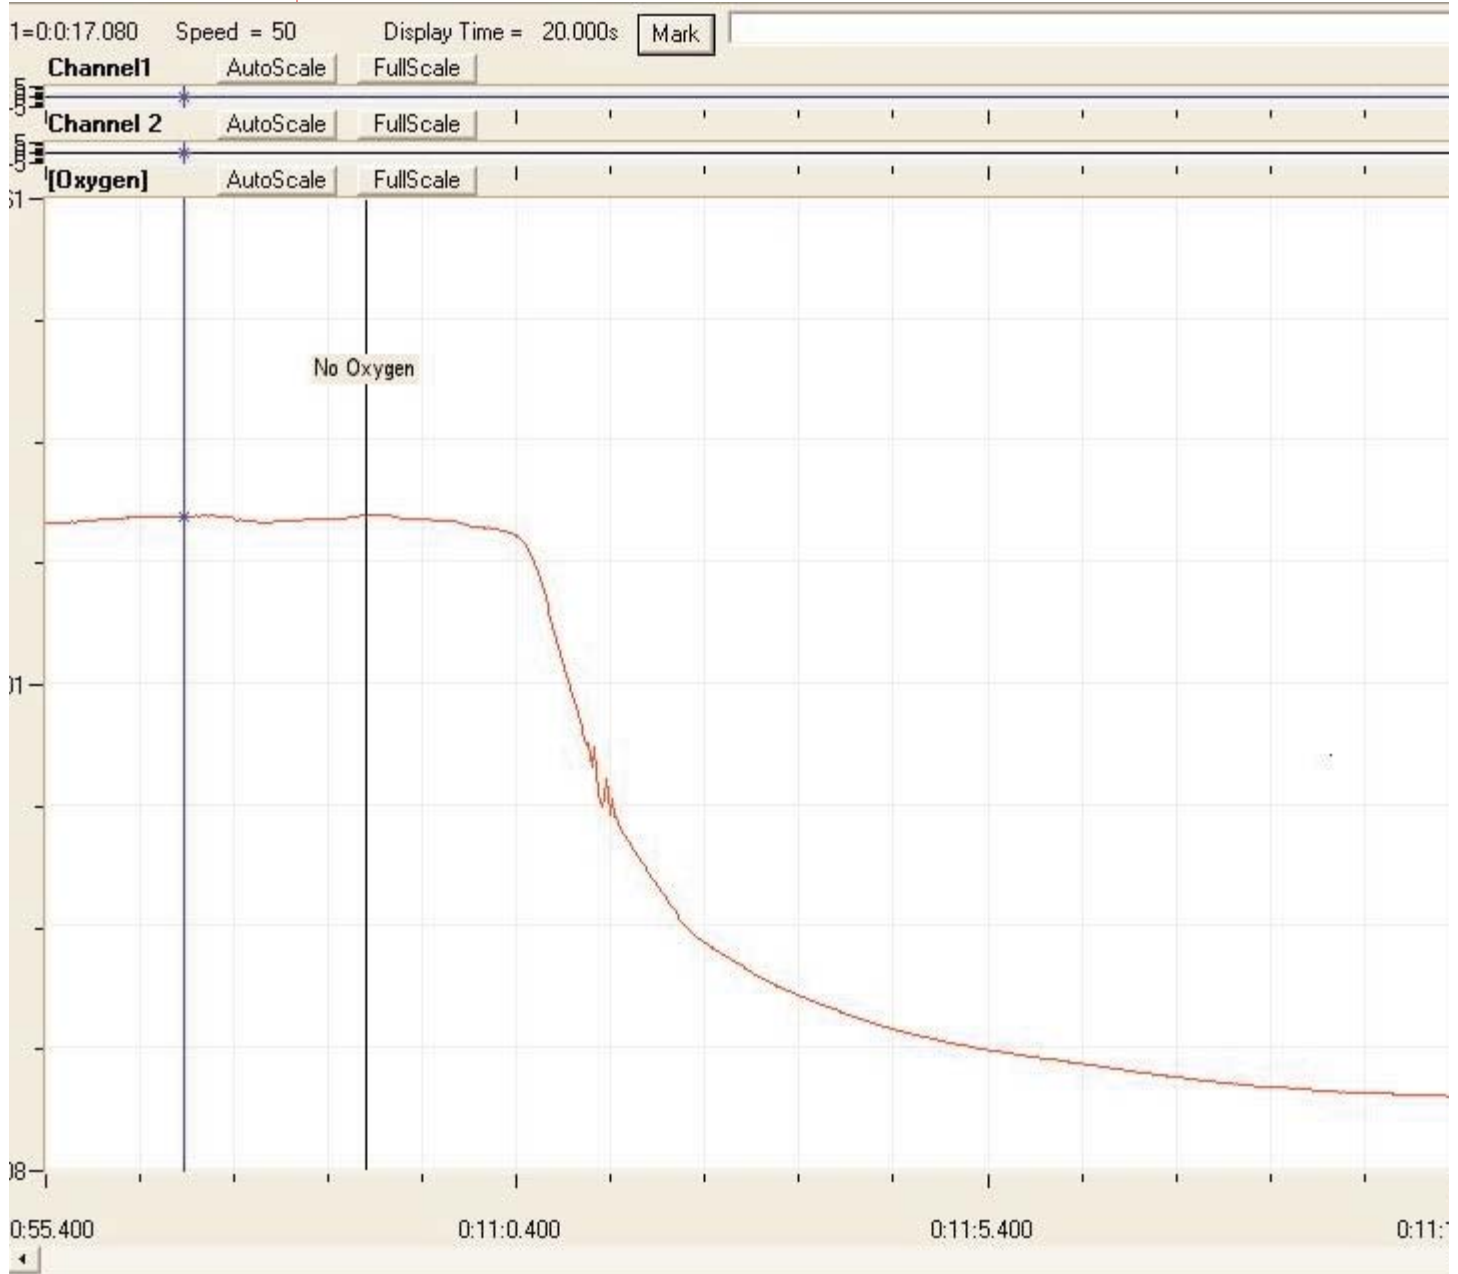

Figure 2: Output of oxygen electrode before and after the depletion of oxygen from the water in the chamber.
- Use a micropipette to add 10 μ l (microliters) of 1.5M Sodium Dithionite (oxygen depletion) solution to the water in the reaction chamber for every milliliter of water in the chamber. In a few seconds, this small amount of solution will deplete all the oxygen from the deionized water stirring in the chamber. Record the drop in the oxygen concentration in the chamber until the trace is a flat line at a lower amplitude (Figure 2 on page 3). Note that this is the recording for water depleted of oxygen at room temperature.